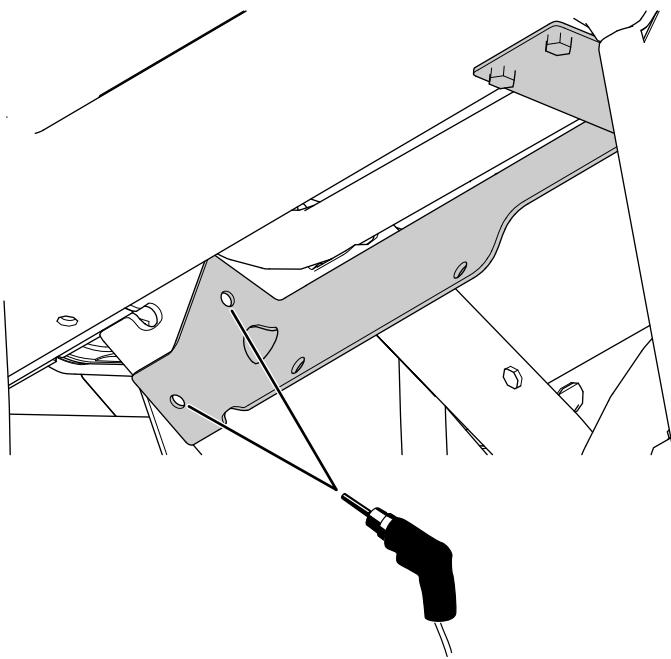

Figure 26
C. Using the heater bracket as the template, drill 2 holes (5/16 inch) into the dash support (Figure 26).